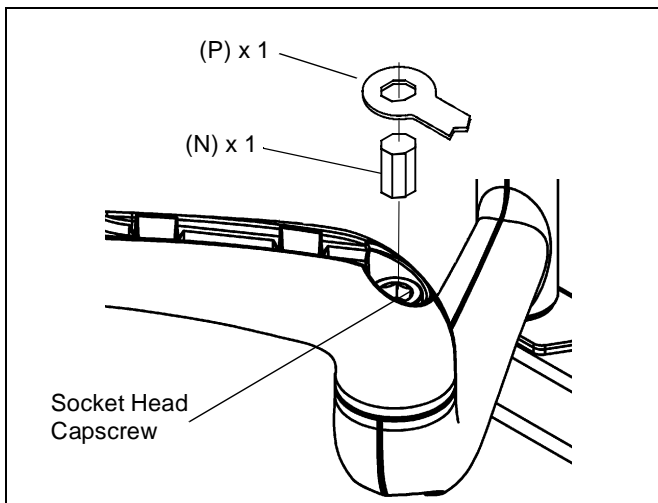

Figure 7
1. Locate the adjustment bar (N) and adjustment wrench (P).
2. Place adjustment bar (N) into socket head cap screw located at swing arm pivot point. (See Figure 7)